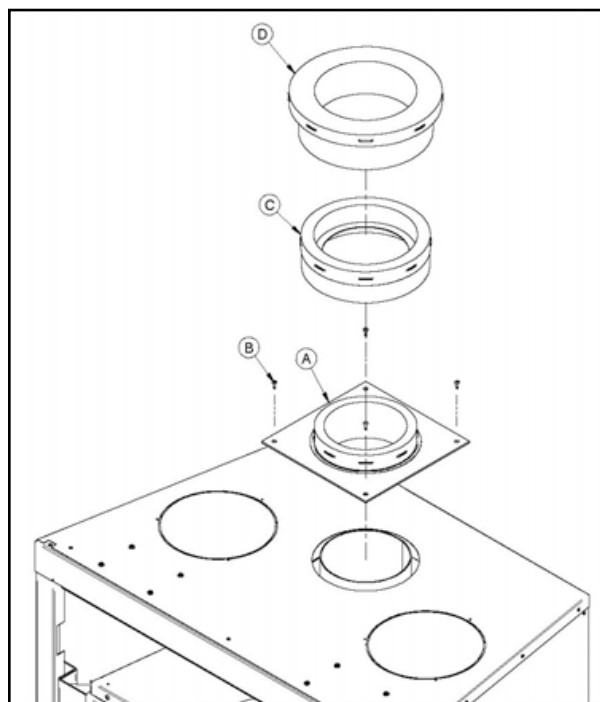

Figure 48
* This fireplace may be installed with a 7-inch chimney of the same type as the ones listed in the above table, provided that a 6" to 7" insulated increaser (see figure 48, parts C and D), supplied by the chimney manufacturer, is installed for the transition between the 6-inch anchor plate (see figure 48 part A) which can be secured with screws (see figure 48 part B) and the 7-inch flue. For Security Chimneys, the part number is 6AW7.